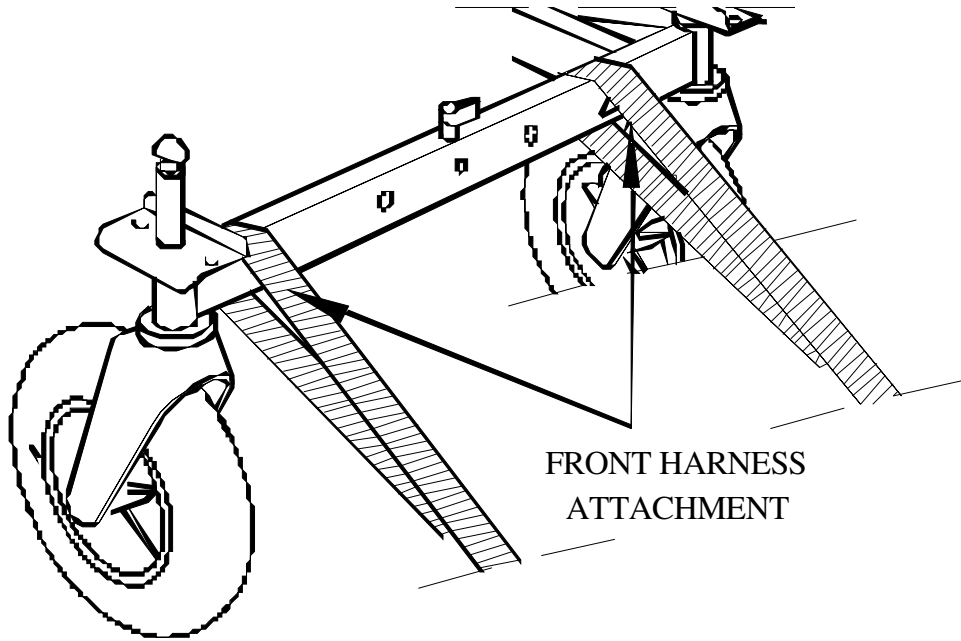
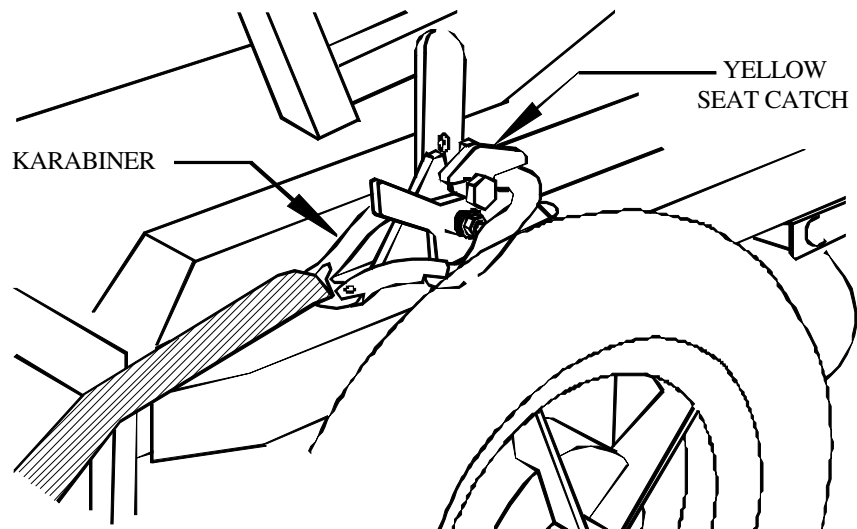

FIG .11.
FIG 12
- (A) Position the wheelchair over the rails and apply the foot-operated brakes.
- (B) Attach front restraints to the rail so that the buckles 'press' point outwards.
- (C) EPIOC Model (see Fig. 11).
- (D) Take the harness tongue over the front frame tube, then down and behind the castor mounting, under the side frame tube and forwards before securing into the buckle. Repeat for the other side.
- (E) Attach the rear karabiners to the Restraint/Seat Mount (indicated by the yellow seat latch), with the karabiner latch opening pointing outwards.
- (F) Ensure that the karabiner is registered in the slot provided. (See Fig. 12)
- (G) Follow manufacturers Restraint Instructions to finish securing the wheelchair.
- (H) Apply the passenger restraint (inertia belt)
- (I) Reverse above procedure to release the wheelchair.